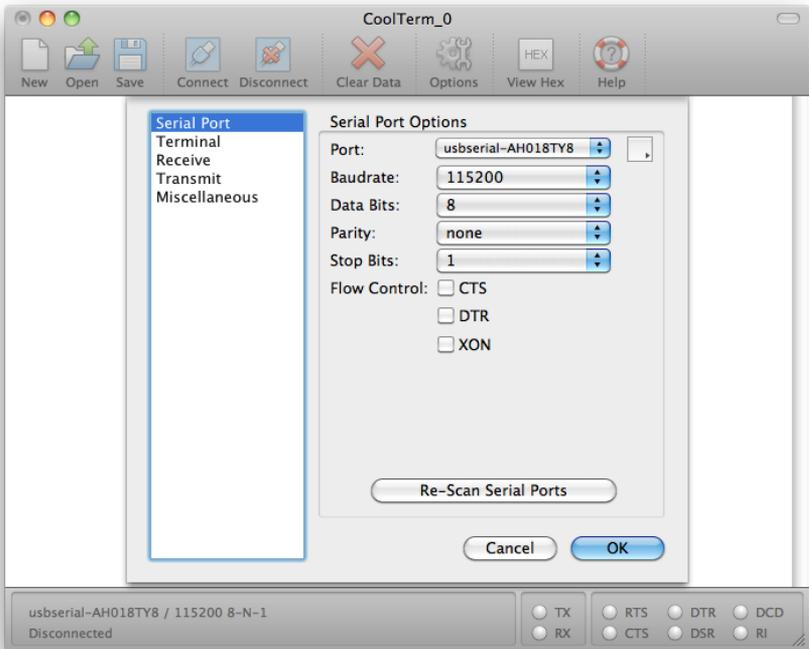

Figure H-2. Selecting the speed and serial port in CoolTerm.
7. For Baudrate, select 115200 (Figure H-2).